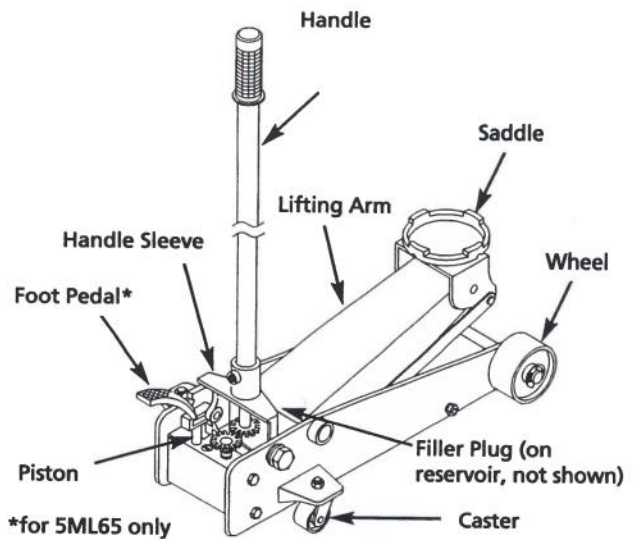

Figure 2 - Hydraulic Floor Jack Components for 3ZC67 & 5ML65
- Models 3ZC67 and 5ML65. Close release valve (See Figure 2) by turning handle clockwise.
- Models 3ZC67 and 5ML65. Open release valve (See Figure 2) very slowly by turning handle counterclockwise no more than one full turn.